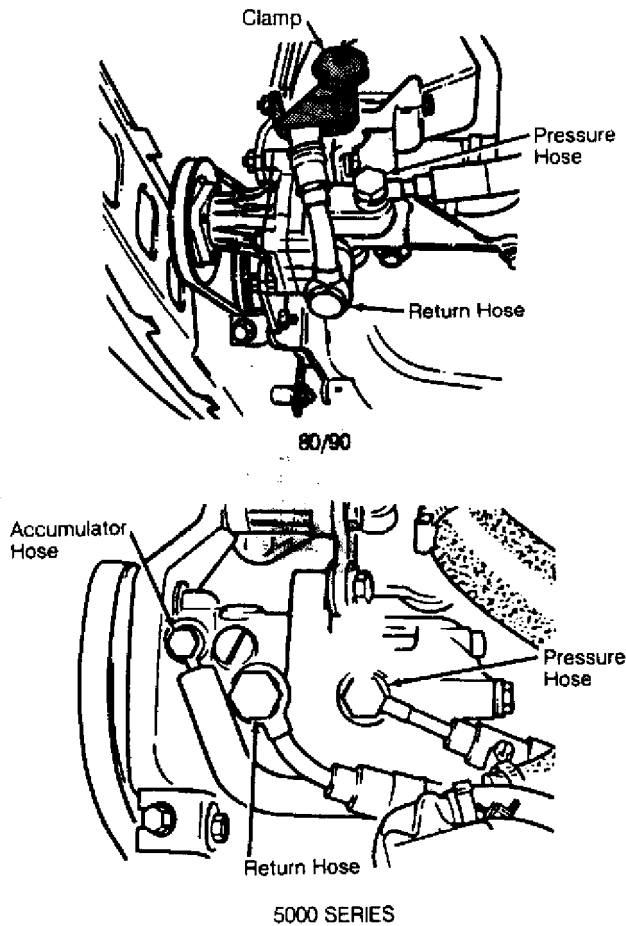

Fig. 4: Testing Pump Delivery Pressure
1) Use a clamp to block off the pressure and suction hoses. Remove the pressure hose and banjo bolt from steering pump. Install test gauge adapter and sealing washer in place of banjo bolt. Install pressure gauge. Remove hose clamp from suction hose. See Fig. 4.